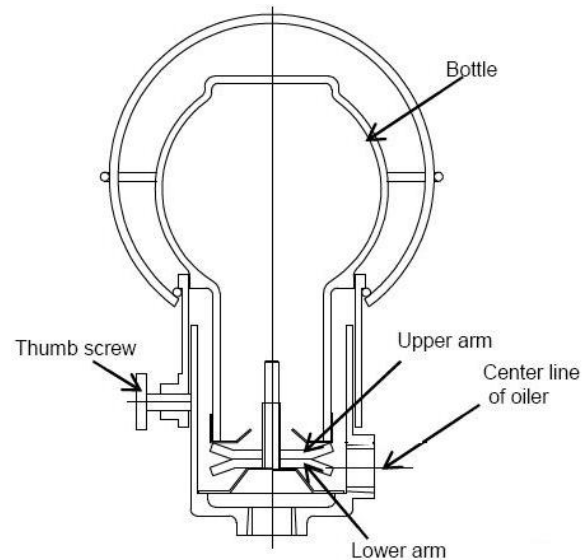

Figure 5.4
- b) Release thumb screw and remove bottle. Establish a measurement from the centerline of the oiler connection in bearing housing to the upper cross arm of 6 mm (0.24 in.); this can be obtained by completely screwing down the lower arm as illustrated in figure 5.4